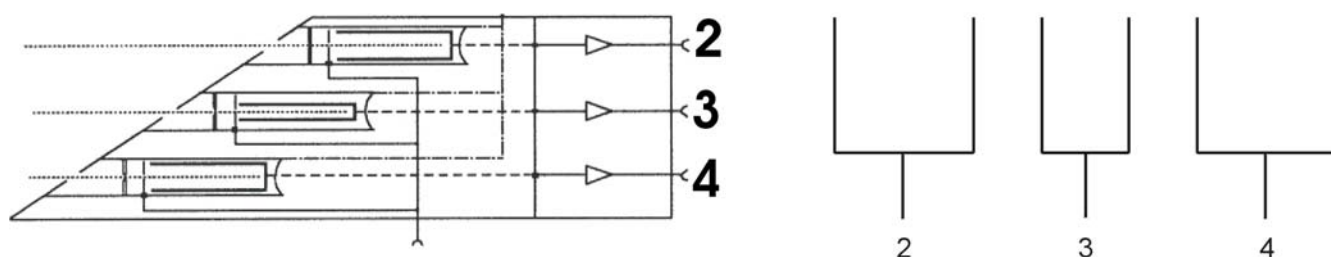

Figure 5-7. Schematic of Universal Triple System
The Universal Triple collector system is suitable for N_2 , O_2 , CO_2 and SO_2 measurement. It consists of one small and two wide, individually shielded deep Faraday cups (Figure 5-7). Universal Triple collector system can be accessed together with the optional HD collector system during one experiment, e.g. for background checks.
*Refer to Figure 5-7 and Figure 5-8.